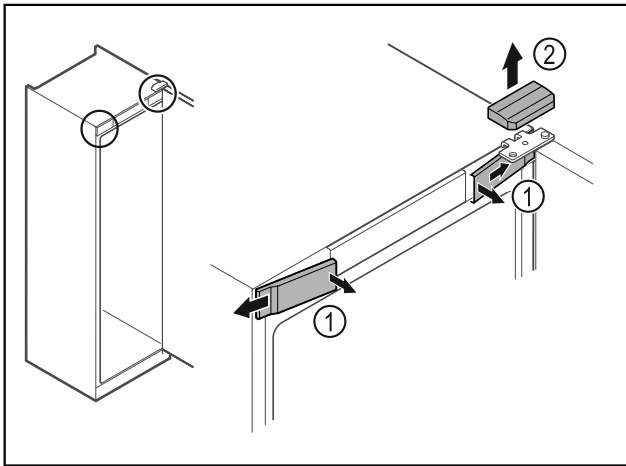

Fig. 17
- Unlatch the front covers Fig. 17 (1) on the inside and remove them sideways.
- Lift off the upper cover Fig. 17 (2).